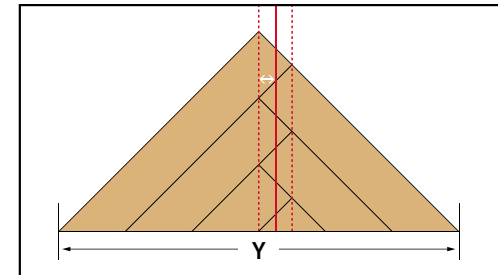

Figure 29
- ▶ Divide this number by two and get the X measurement. The Y measurement is the width of the triangle at its widest point as show in (Fig 29).